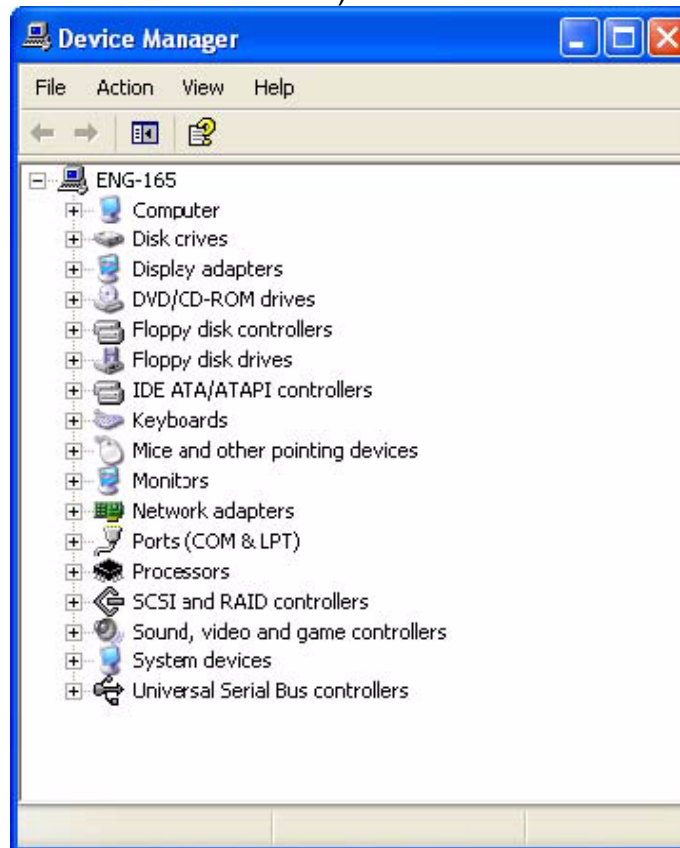

Figure 6-10 Device Manger
4. Click the **Device Manager** button. (Figure 6-10).